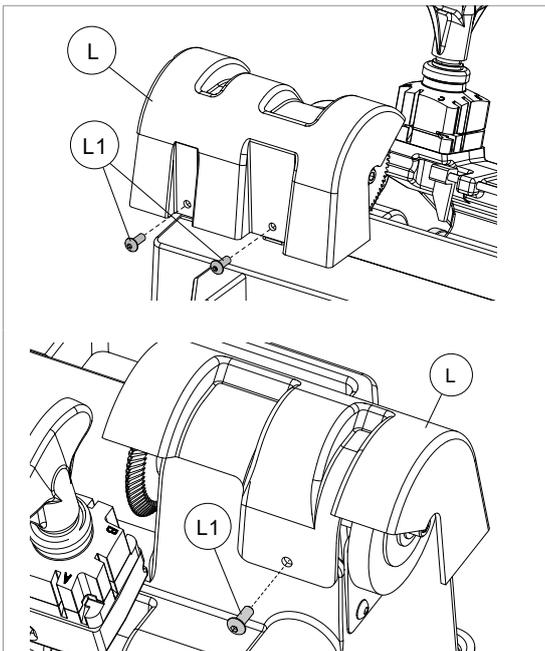

Fig. 33
**⚠ ATTENTION:** turn off the machine with motor switch (T), turn off main power switch (N), close the switch protection cover (N1) and check that it is NOT connected to the battery.
- 1) Remove the cover (L) by loosening the 3 screws (L1) (Fig. 33).